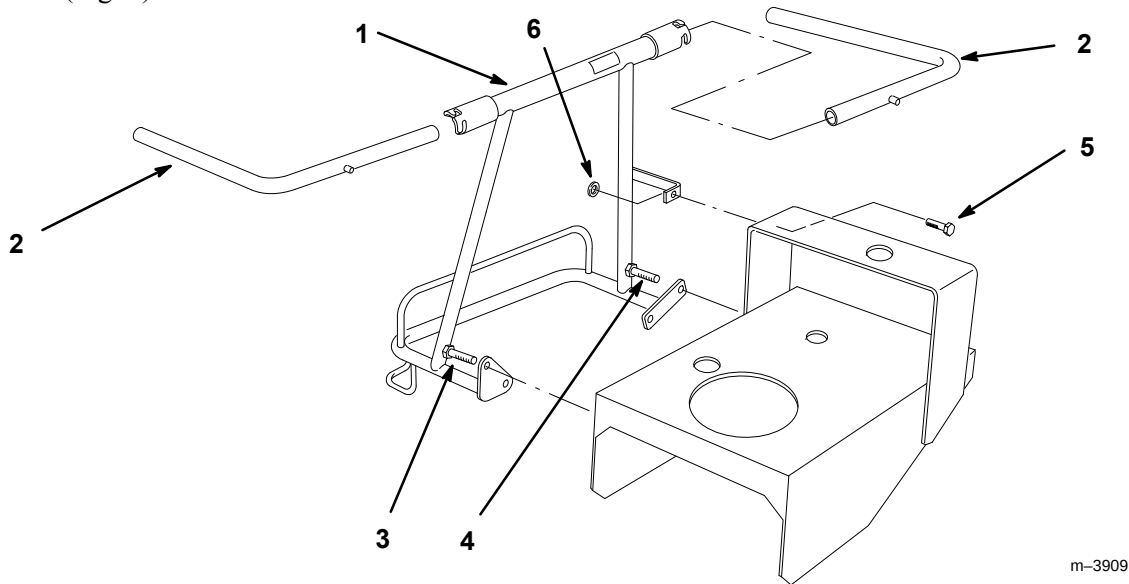

Figure 4
4. Loosely secure front of bagger support to traction unit frame with (2) 1/2 - 13 x 1-1/4" (32 mm) flange head bolts (supplied in loose parts bag) and (2) 1/2-13 flange nuts previously removed (Fig. 4).
5. Loosely secure rear of bagger support to bottom of R.H. bracket support and rear frame with (2) 3/8 - 16 x 1-1/4" (32 mm) bolts (supplied in loose parts bag) and flange nuts previously removed (Fig. 4).
6. Reverse previously removed bolt and place through from behind rear frame. Secure idler bracket, spacer, spring, wheel guard, bagger support and washer (from bagger loose parts) with previously removed flange nut (Fig. 4).
7. Slide frame tubes into ends of bag support and lock pins into horizontal position slots (Fig. 4).